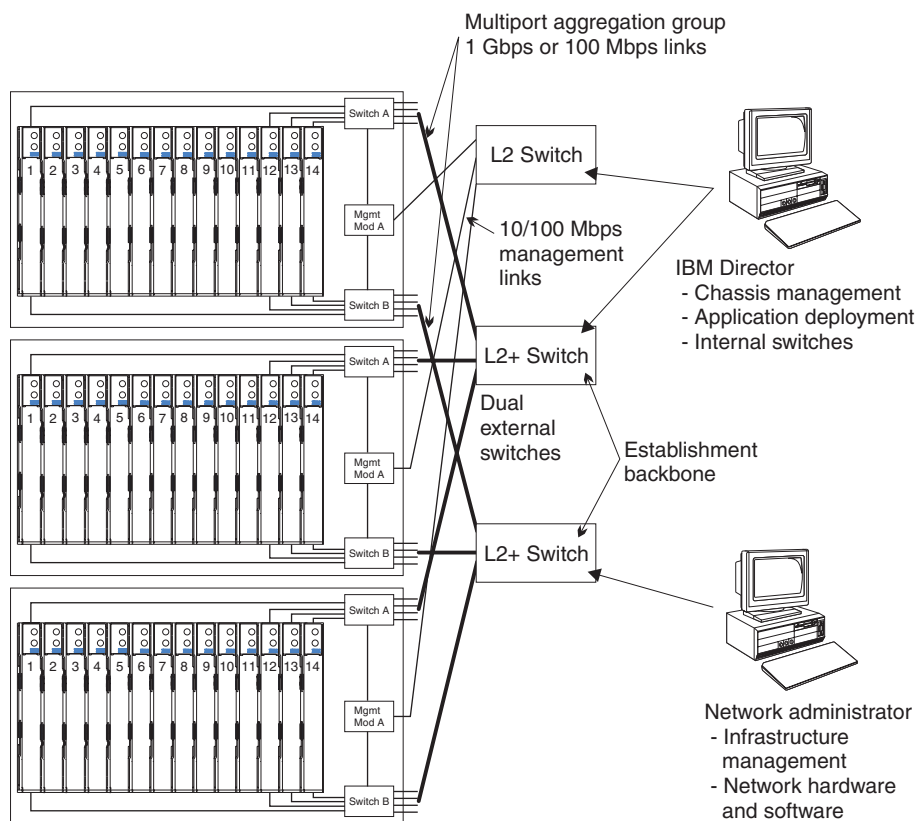

Figure 25. Recommended network topology with multi-port link aggregation groups
**Link aggregation example:** As shown in Figure 25 the two Link Aggregation Groups from a BladeCenter unit are connected to separate Layer 2 or Layer 3 switches. This provides a redundant path in case of a link or switch failure.